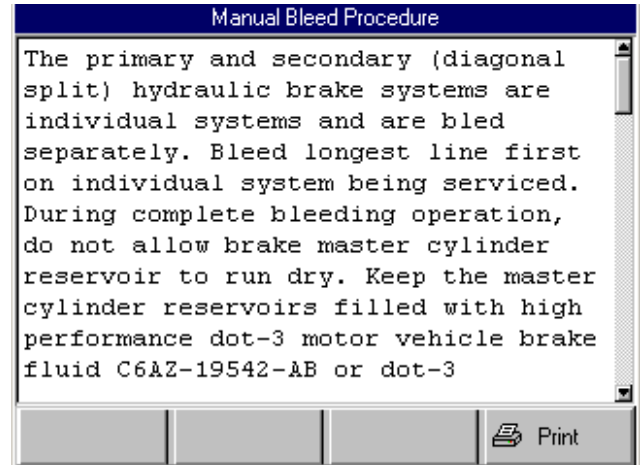
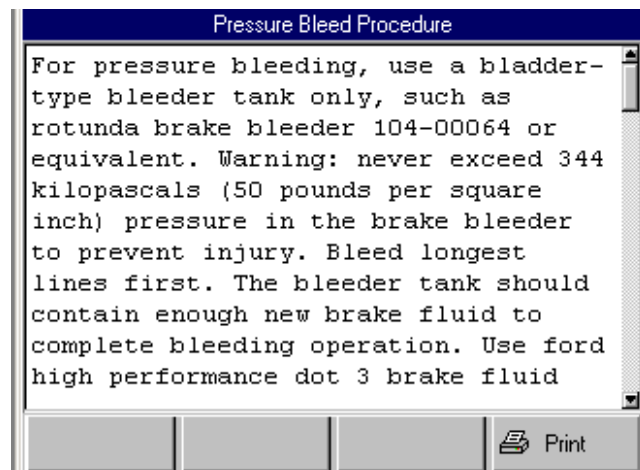

Figure 7.18: Manual Bleed Procedure Screen
Figure 7.19: Pressure Bleed Procedure Screen
- 3 Select either **Manual Bleed** or **Pressure Bleed** and press the **ENTER** key. This displays either the Manual Bleed Procedure screen (see Figure 7.18) or the Pressure Bleed Procedure screen (see Figure 7.19).